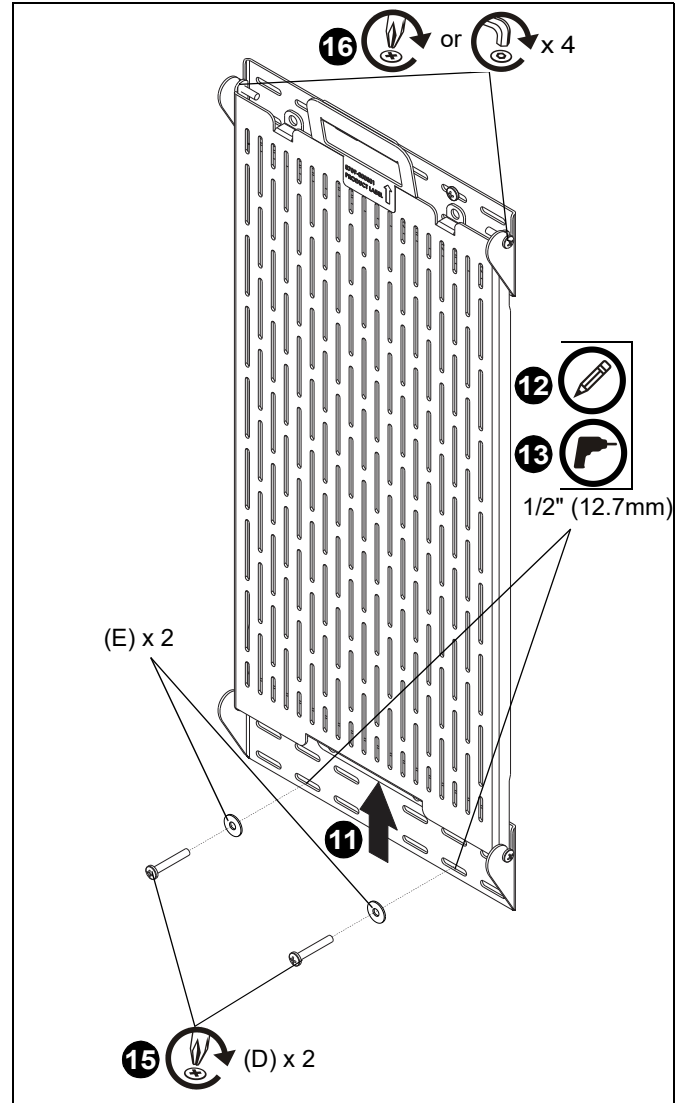

Figure 12
- Place lower wall bracket (B) under accessory wall plate so that lower screws (F) or (G) sit in the slots of lower wall bracket (B). (See Figure 12)
- Mark desired hole locations to mount lower wall bracket to wall. (See Figure 12)
- Remove lower wall bracket from wall and drill two 1/2" holes at marked locations. (See Figure 12)
- Install two #10-24 anchors (C) into drilled holes following Steps 3-6.
- Reposition lower wall bracket (B) in mounting position and use two #10-24 x 1 1/4" Phillips pan machine screws (D) and two #10 washers (E) to secure wall bracket (B) to anchors (C). (See Figure 12)
- Tighten all four screws (F) or (G) holding accessory wall plate (A) to wall brackets (B). (See Figure 12)